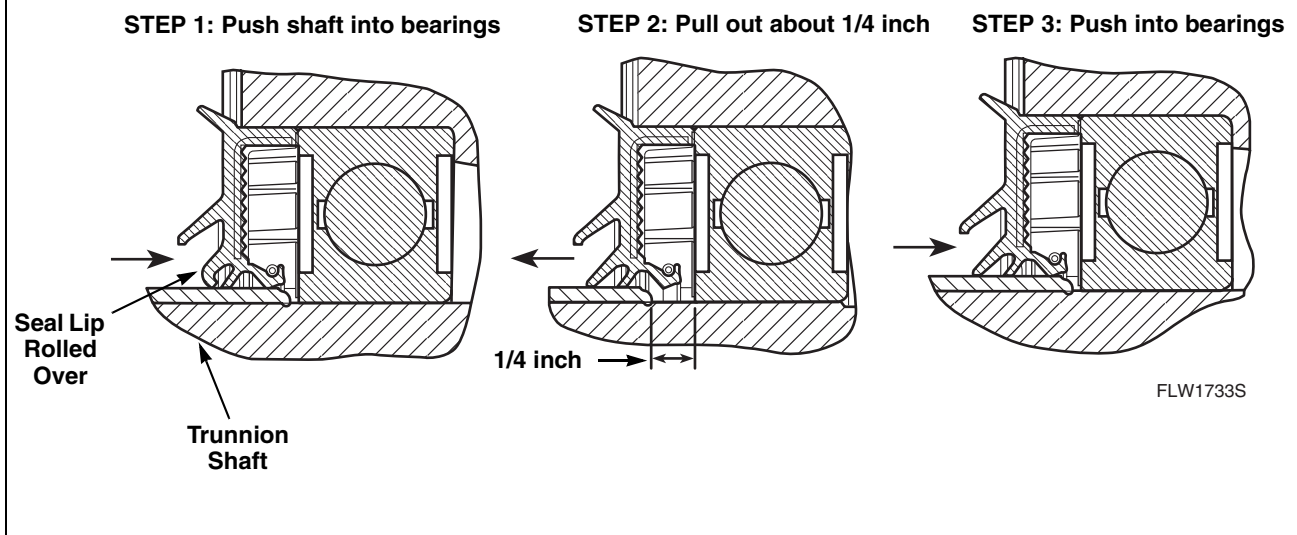

Figure 27
- Install inner basket assembly by pushing all the way into outer tub. Refer to Figure 27, Step 1.
- Slightly pull out inner basket about 1/4 inch to ensure that the bearing housing seal lips are not rolled over. Refer to Figure 27, Step 2.
- Fully reseal inner basket. Refer to Figure 27, Step 3.
- c. Install inner basket assembly by pushing all the way into outer tub. Refer to *Figure 27*, Step 1.
- d. Slightly pull out inner basket about 1/4 inch to ensure that the bearing housing seal lips are not rolled over. Refer to *Figure 27*, Step 2.
- e. Fully reseal inner basket. Refer to *Figure 27*, Step 3.